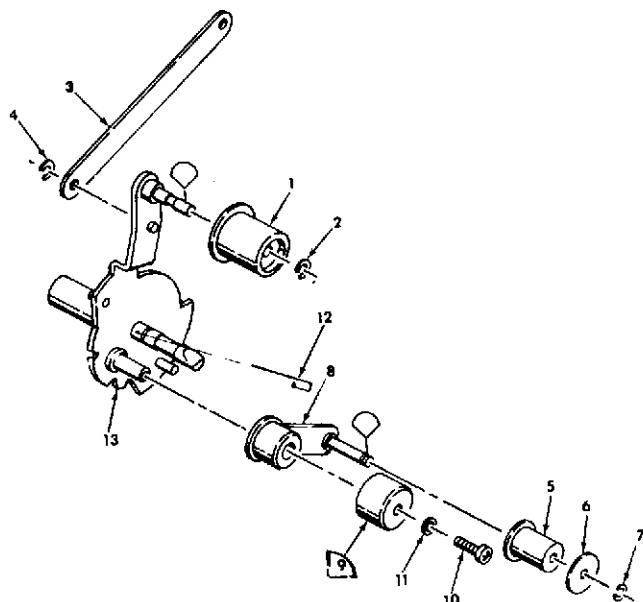

Figure 3-16. THREADING CONTROL PLATE COMPLETE
**4. Threading Control Plate (Fig.3-16)**
- a. Apply Silicone DC-200 to face and inside diameter of cap (9).
- b. Screw (10) to be tightened with 95 to 105 in. oz. torque.
- c. Rotate arm assembly (8) counterclockwise until it is stopped by center shaft. When released, arm must return to original position within 3 to 8 seconds.
- e. Roller (1) end play to be .005 to .015.